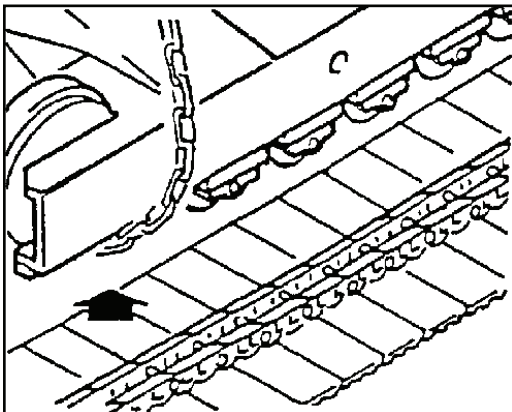

Fig. 3-66 Track Frame - lift
2. Using an adequate lifting device, lift crawler frame off of track chain high enough to gain access to the track rollers for removal (fig. 3-66). Support track frame with an adequate support so it can not fall.